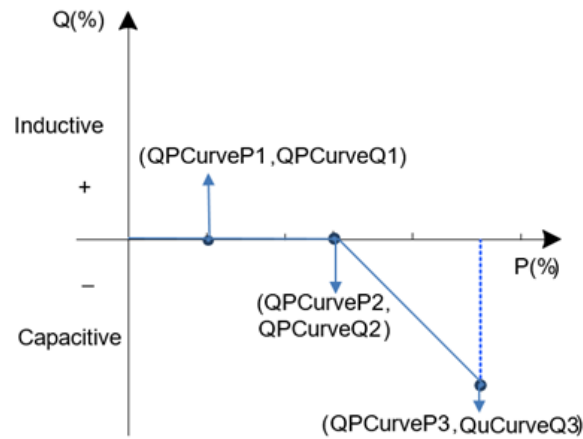

Figure 5-7 Q(P) Curve Mode
Q(P) Curve: Q(P) curve mode. The reactive compensation changes according to the active power change (see Figure 5-7).